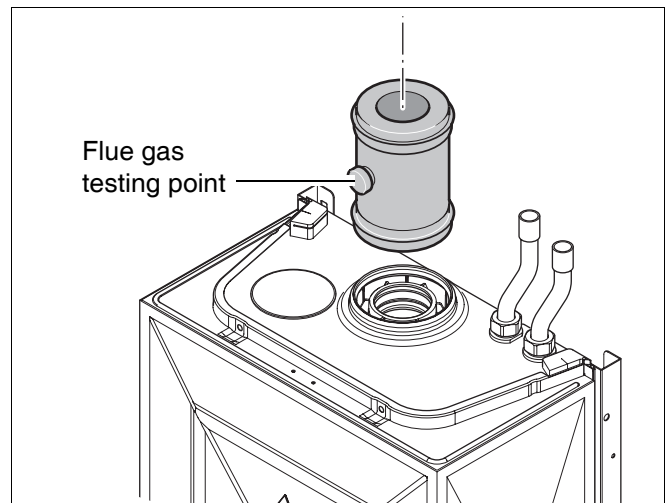

Fig. 16 Vertical flue adaptor
- Fit the vertical flue adaptor (fig. 16) onto the appliance flue connector.